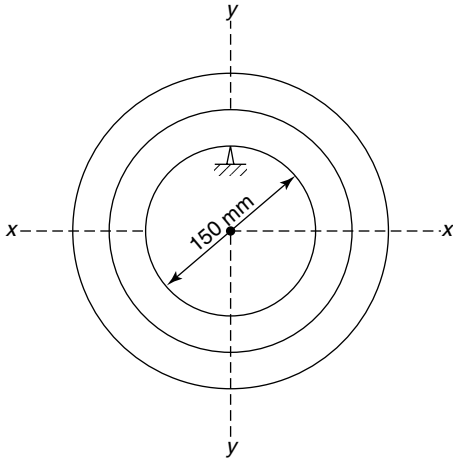

Figure 17.8
Figure 17.8, where the frequency of oscillation was found to be 1.26 Hz. If the mass of the ring is 10.5 kg, determine the mass moment of inertia about the centre of gravity, I_G . Take $g = 9.81 \text{ m/s}^2$.
By inspection of Figure 17.8,
- What will be the value of the mass moment of inertia through the centre of gravity, I_G , for the compound pendulum of worked problem 4, if the inner diameter of the disc of Figure 17.8 were 100 mm? [0.0559 kg m²]